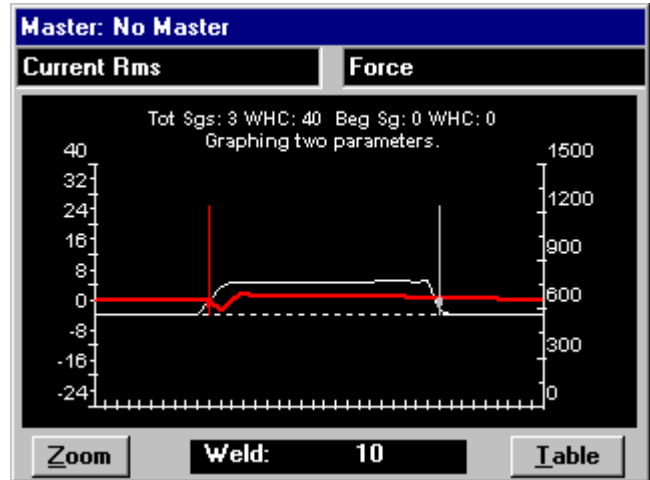

Figure 5-5 Halfcycle Summary (graph)
- Use the MENU key to go to the **Main Menu**. Select **Data**, then **Halfcycle Summary**. The screen should look similar to figure 5-5.